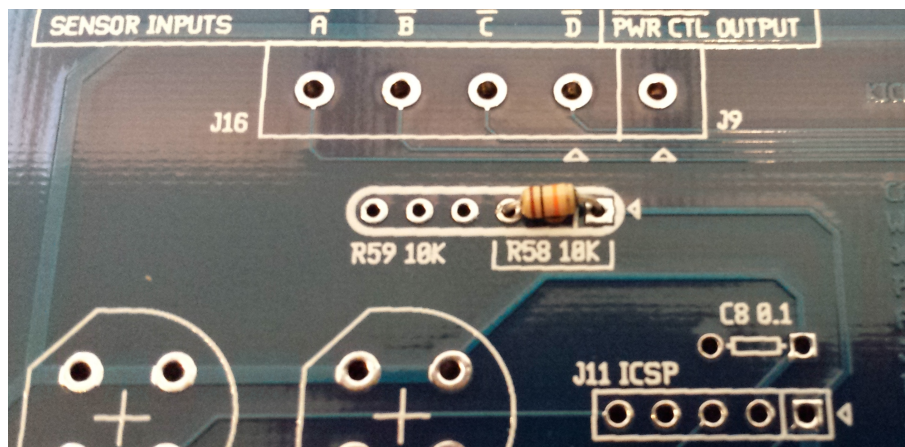

Figure 6.1: R58 Placement
1. Install a 10 K resistor at R58. Note that it goes into the square hole (marked with a triangle on the board) and the second hole to the left of it (there will be one empty hole under the resistor, between the leads). See Figure 6.1 for details. Solder into place.
4. Repeat Step 3 to install (2) green LEDs at D8 and D10.
5. Repeat Step 3 to install (2) yellow LEDs at D9 and D11.